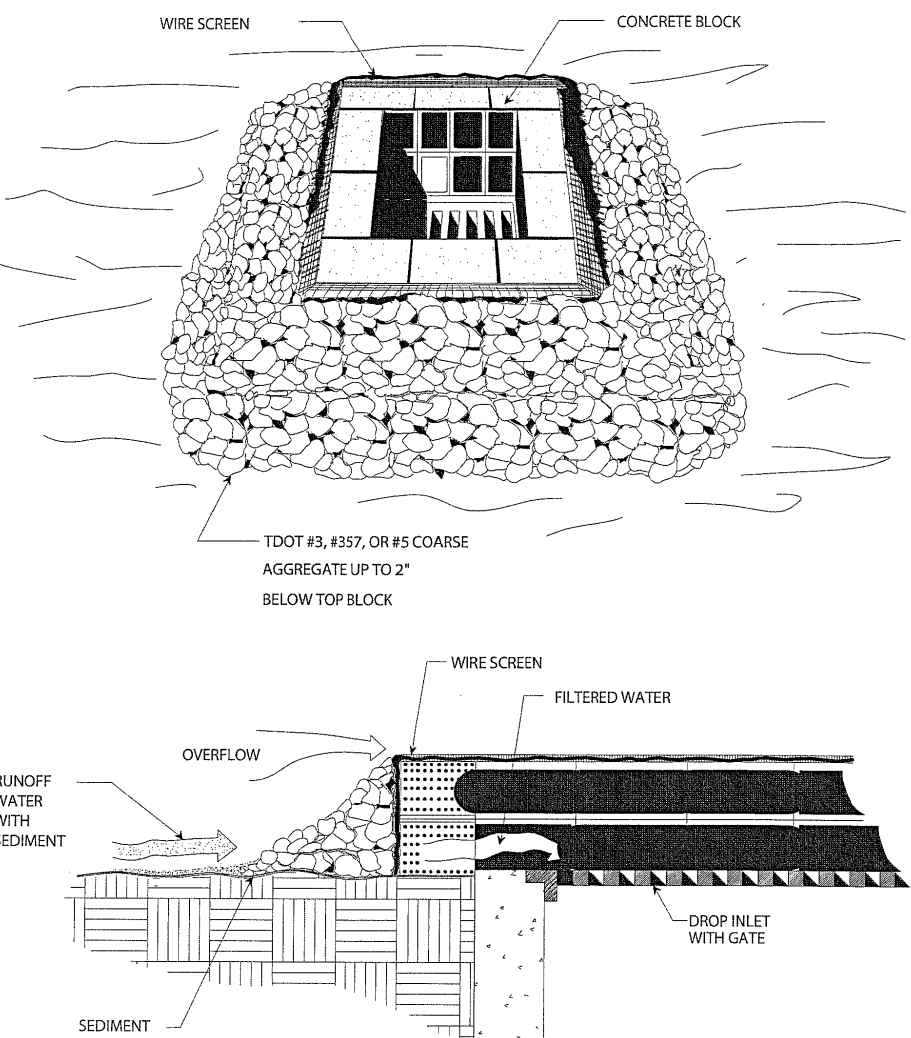

Figure 3
**Block and Gravel Inlet Protection - IP-BG** This method of inlet protection is applicable where heavy flows are expected and where an overflow capacity is necessary to prevent excessive ponding around the structure. As shown in Figure 3, one block is placed on each side of the structure on its side in the bottom row to allow pool drainage. The foundation should be excavated at least 2 inches below the crest of the storm drain. The bottom rows of blocks are placed against the edge of the storm drain for lateral support